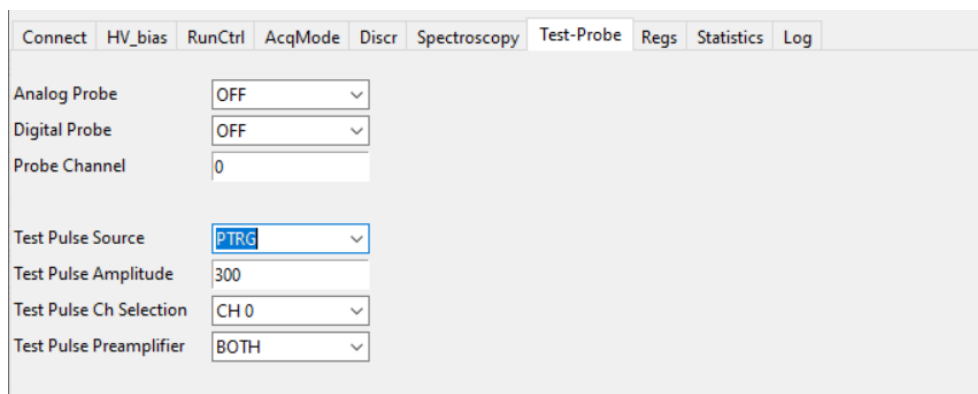

Fig. 10.19: Settings to test the board with the internal periodic pulser.
5. Select which Citiroc-1A Preamplifiers (LG or HG) is used for the "Test Pulse Preamplifier" parameter. For the test described in this section the same settings as those in Fig. 10.19 are applied.